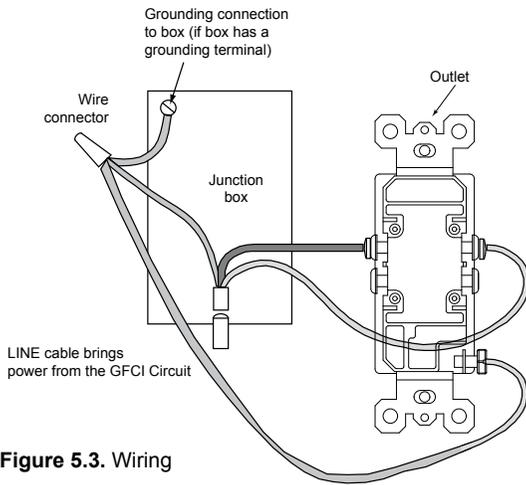

Figure 5.3. Wiring
- Wire and assemble junction box. See Figure 5.3.